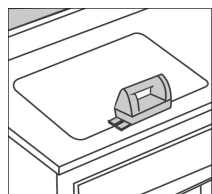

Figure 2
- Cut the hole for the sink, using a jig saw to cut along the outline between each hole (Figure 2).